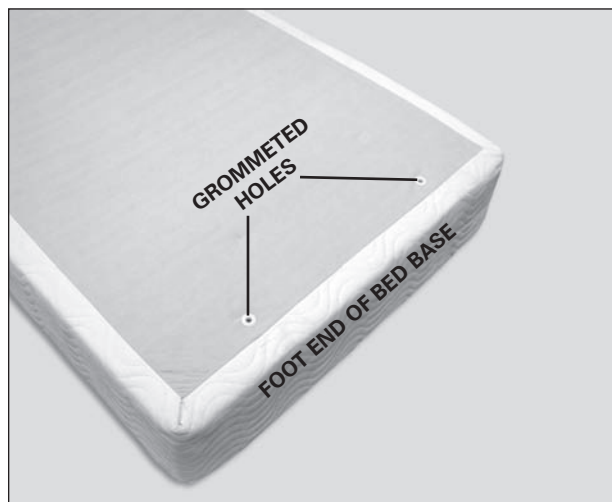

FIGURE 12: Grommets hole locations.
- a. Locate grommets holes at foot of bed base (**FIGURE 12**).